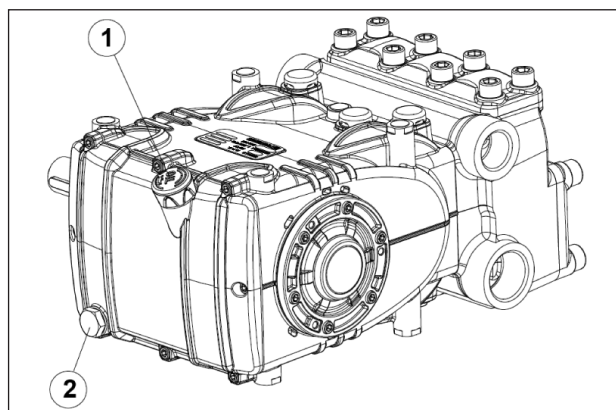

Fig. 3
Using the oil dipstick pos. ①, Fig. 3.
The correct checking of the oil level is made with the pump not running, at room temperature. The oil change must be made with the pump at working temperature, removing: the oil dipstick, pos. ①, and then the plug pos. ②, Fig. 3.
Use a temperature probe to be inserted into the oil drain plug pos. ② Fig. 3.